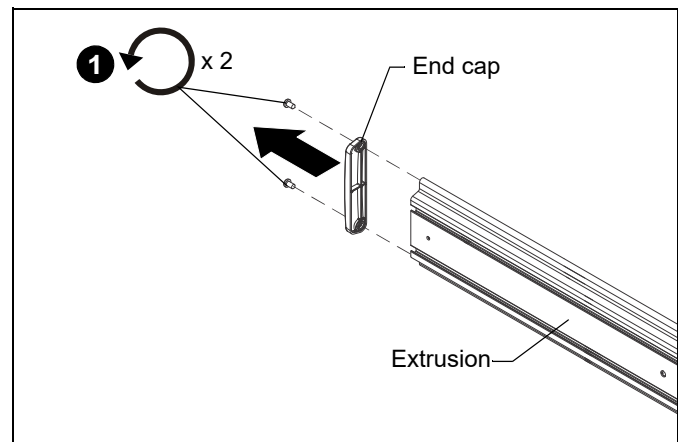

Figure 3
1. Remove screws and end cap from extrusion. (See Figure 3)